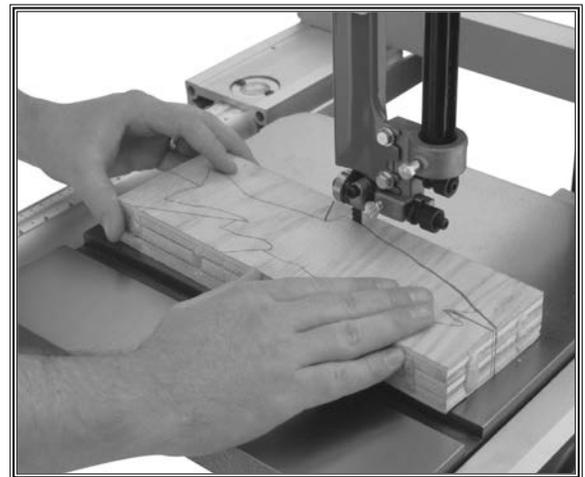

Figure 59. Typical stacked cut.
5. Cut the stack of pieces as though you were cutting a single piece. Follow your layout line with the blade kerf on the waste side of your line as shown in **Figure 59**.